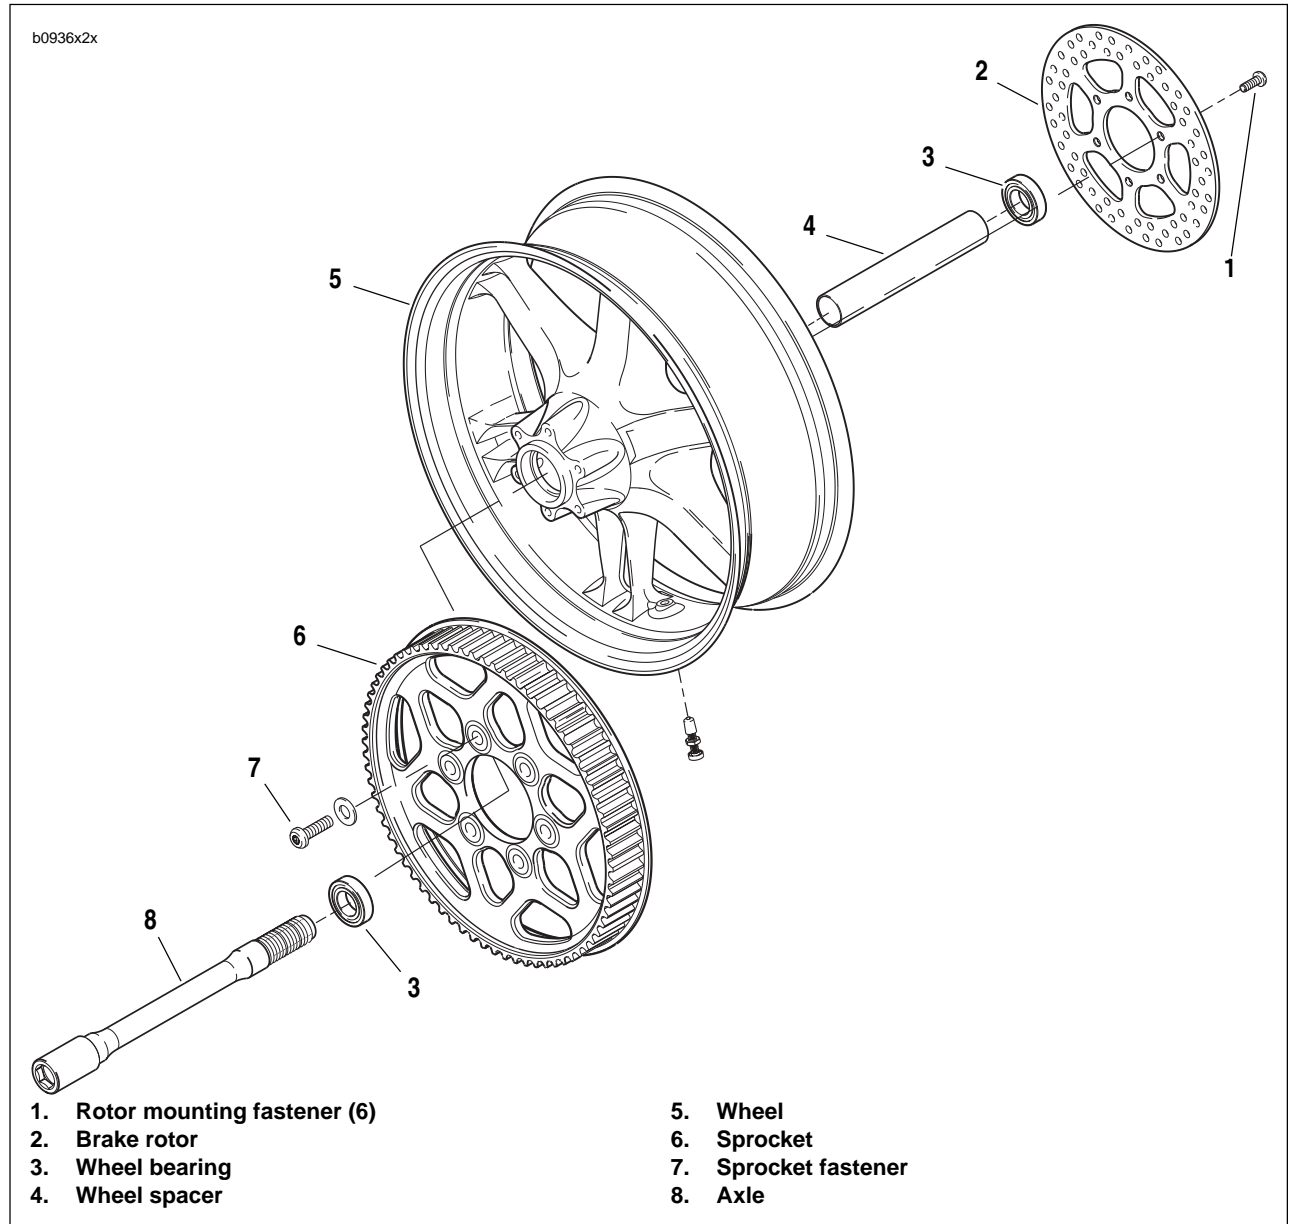

Figure 2-24. Rear Wheel Assembly
- a. See Figure 2-24. Remove and discard rotor mounting fasteners (1).
1. See Figure 2-24. Install wheel bearing (3) on rotor side of motorcycle.
2. Install rear wheel spacer (4).
3. Install wheel bearing (3) on sprocket side of motorcycle.
- a. Position sprocket (6) on wheel (5) keeping lip of sprocket facing the inside.
- b. Install **new** sprocket fasteners (7) and washers tightening to 35-37 ft-lbs (48-50 Nm).
5. See Figure 2-24. Install rear rotor (2).
- a. Position rear brake rotor (2) on wheel (5).
- b. Install brake rotor (2) with **new** rotor mounting fasteners (1) and tighten to 25-27 ft-lbs (34-37 Nm).
1. See Figure 2-24. Install the rear axle by threading partially into swingarm.